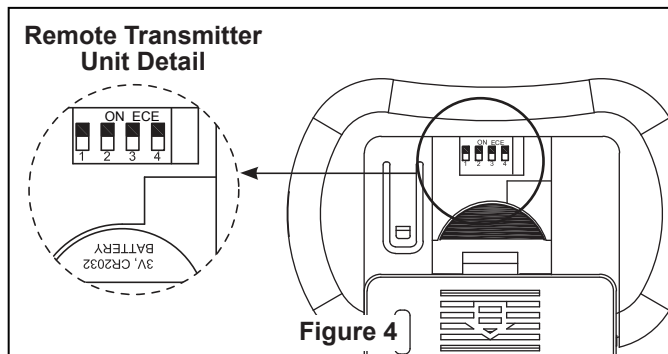

Figure 4
3. You will first drill 1/8" pilot holes into the plywood base or supporting member to prevent splitting or cracking. Mount the ceiling plate assembly on the ceiling with four pan head wood screws and flat washers. (Figure 4)
4. Assemble the pulley assembly mounting cover using the previously removed screws and securely tighten all screws. (Figure 4)
4. Assemble the spring washer and end cap to the pulley assembly by twisting in a clockwise direction. (Figure 4)
• **Transmitter:** remove battery cover by pressing firmly below arrow and sliding battery cover off. Slide code switches to your choice of up or down position. Factory setting is all up. Do not use this position. With a small screwdriver or ball point pen slide switches up or down (Figure 4). Replace battery cover on the transmitter.